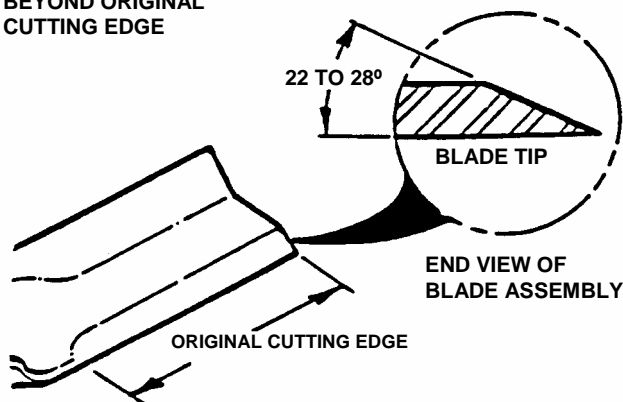

FIGURE 4.4
4. Sharpen blade on a grinding wheel at an angle of 22 to 28 degrees. **DO NOT** sharpen blade beyond original cutting edge. See Figure 4.4.